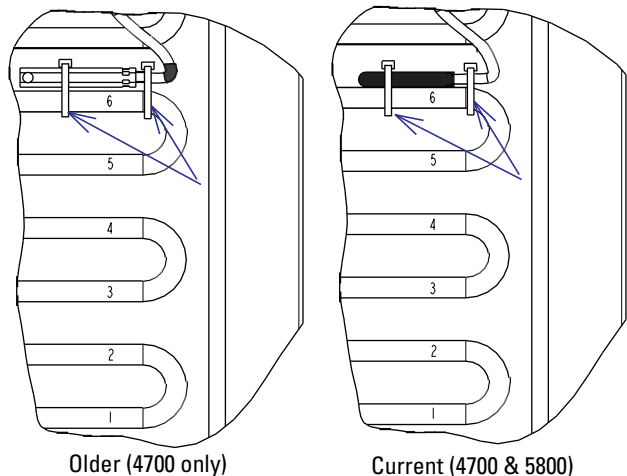

Figure 19: Remove evaporator temperature sensor
8. The evaporator temperature sensor is mounted on the sixth coil up on the evaporator (Figure 19). Note that some older 4700 models have a metal sensor, while current models have a black rubber molded housing. Cut the ties holding the evaporator sensor in place and move it out of the frame.
14. Install the evaporator temperature sensor at the top of the sixth coil (Figure 19), using the cable ties provided.
To operate correctly the sensor must be mounted in the exact position illustrated in Figure 19.